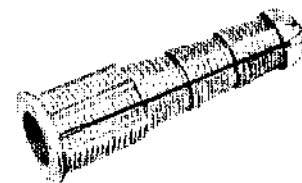

Fig. 25 — AT-7794X Plastic Anchor
6.14 The AT-7794X plastic anchor is intended for use with wood screws when making attachments to masonry (Fig. 25). Table H gives the sizes.